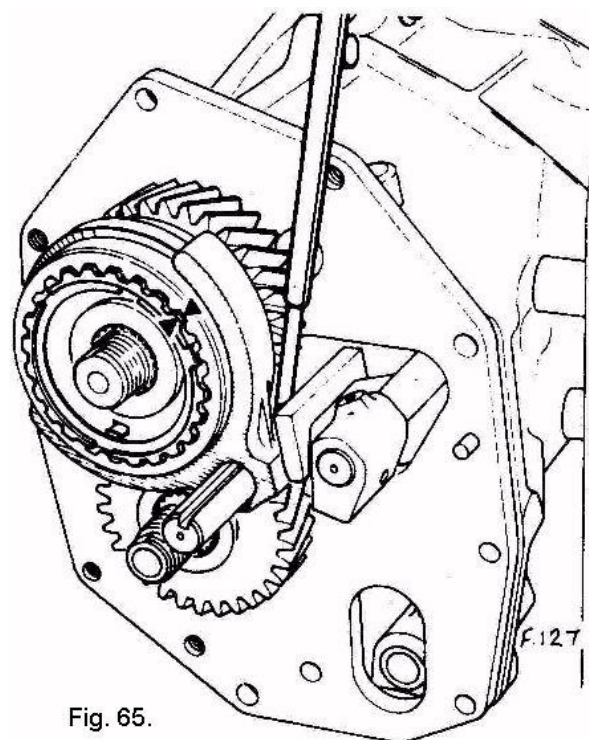

Fig. 65.
10. Push out the 5th speed fork roll pin (see Fig.65) using the drift (Part No. X046 F 6180Z).